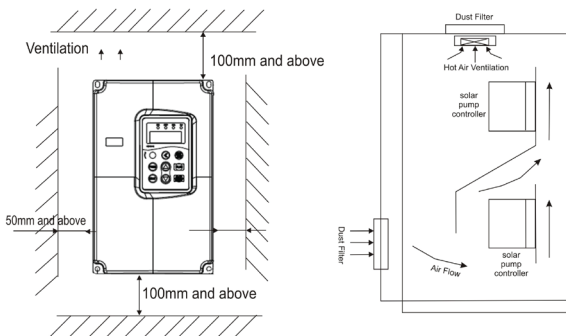

Figure 6 Ventilation Arrangement and Required Distances
- The solar pump controller must be installed into a control box which has a tight enclosure to avoid direct sunshine , rain, dust, moisture, animals, plants, etc. The control box should has a bottom gland plate for installing wire cord or conduit. To decide the size of control box, Please refer to the following Figure 6.